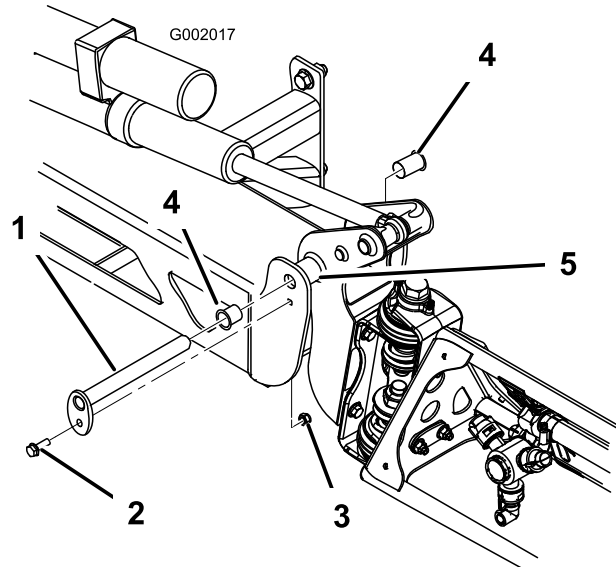

Figure 21
3. With the weight of the boom supported, remove the bolt and nut securing the pivot pin to the boom assembly (Figure 21). Remove the pivot pin.
5. Remove and inspect the nylon bushings from the front and back sides of the pivot bracket (Figure 21). Replace any damaged bushings.
7. Install the boom and pivot bracket assembly into the center frame, aligning the openings (Figure 21).